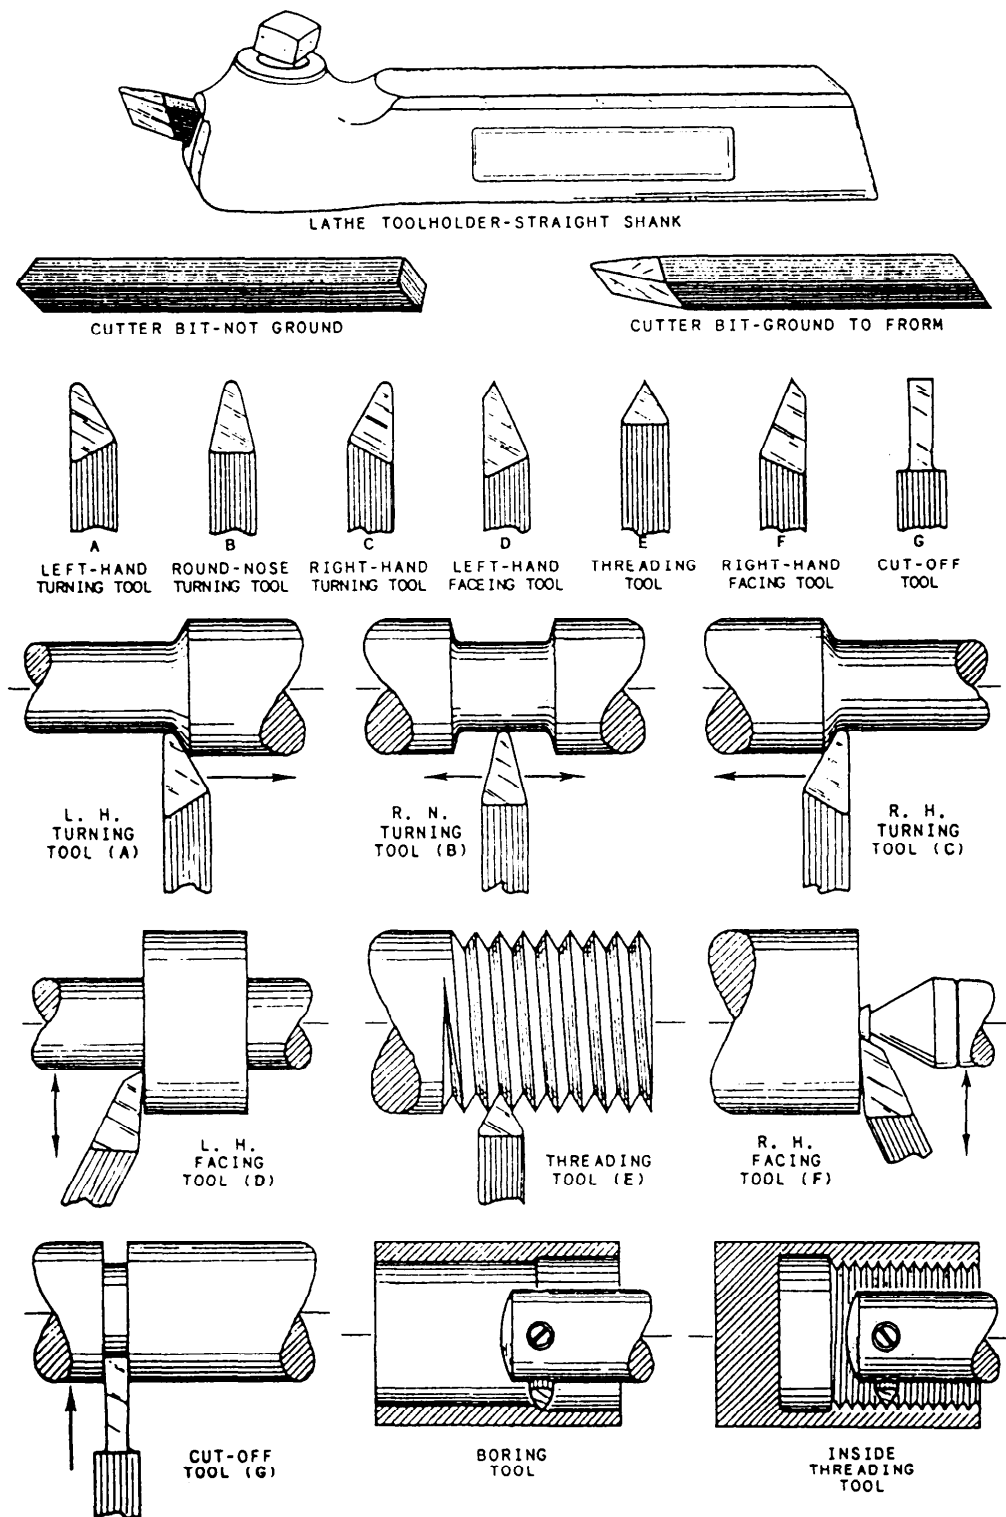

Figure 5-20.—Lathe tools and their application.
Figure 5-20 shows the most popular shapes of ground high-speed lathe tool cutter bits and their
- **Left-hand turning tool:** Grind this tool for machining work by feeding it from left to right as shown in figure 5-20, view A. The cutting edge is on the right side of the tool and the top of the tool slopes down away from the cutting edge.
- **Round-nose turning tool:** This tool is for general all-round machine work and is used to make light roughing cuts and finishing cuts. You should usually grind the top of the cutter bit with side rake so the tool may be fed from right to left. You may sometimes grind the cutter bit flat on top so you can feed the tool in either direction (fig. 5-20, view B).
- **Right-hand turning tool:** This is just the opposite of the left-hand turning tool and is designed to cut when fed from right to left (fig. 5-20, view C). The cutting edge is on the left side. This is an ideal tool for roughing cuts and general all-round machine work.
- **Left-hand facing tool:** Use this tool for facing on the left-hand side of the work as shown in figure 5-20, view D. The direction of feed is away from the lathe center. The cutting edge is on the right-hand side of the tool and the point of the tool is sharp to permit machining a square corner.
- **Threading tool:** Grind the point of the threading tool to a 60° included angle to machine V-form screw threads (fig. 5-20, view E). Usually, you should grind the top of the tool flat and leave clearance on both sides of the tool so it will cut on both sides.
- **Right-hand facing tool:** This tool is just the opposite of the left-hand facing tool. Use it to face the right end of the work and to machine the right side of a shoulder. (See fig. 5-20, view F.)
- **Square-nosed parting (cut-off) tool:** The principal cutting edge of this tool is on the front. (See fig. 5-20, view G.) Both sides of the tool must have enough clearance to prevent binding and should be ground slightly narrower at the back than at the cutting edge. Use this tool to machine necks and grooves, square corners, and to cut off.
●**Internal-threading tool:** The internal-threading (inside-threading) tool is the same as the threading tool in figure 5-20, view E, except that it is usually much smaller. Boring and internal-threading tools may require larger relief angles when you use them in small diameter holes.
Figure 5-21 shows some of the standard toolholders used in lathe work. Notice the angles at which the tool bits sit in the various holders. You must consider these angles with respect to the angles ground in the tools and the angle that you set the toolholder with respect to the axis of the work. Also, notice that a right-hand toolholder is offset to the **LEFT** and a left-hand toolholder is offset to the **RIGHT**. For most machining operations, a right-hand toolholder uses a left-hand turning tool and a left-hand toolholder uses a right-hand turning tool. Study figures 5-20 and 5-21 carefully to help you understand this apparent contradiction. Also, take into consideration that if you use a quick change toolpost and toolholder (fig. 5-22), your end relief angle and your back rake angle will change.
The contour of a cutting tool is formed by the side cutting edge angle and the end cutting edge angle of the tool. Views A through G of fig. 5-20 show the